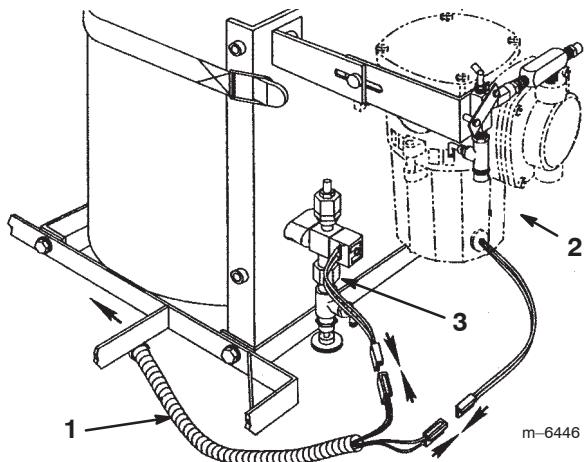

Figure 7
- 1.** Locate the wiring harness and make the connections to the compressor and the solenoid located at the foam tank/compressor assembly (Fig. 7).
Note: Both of the plug connections are identical (Fig. 7).